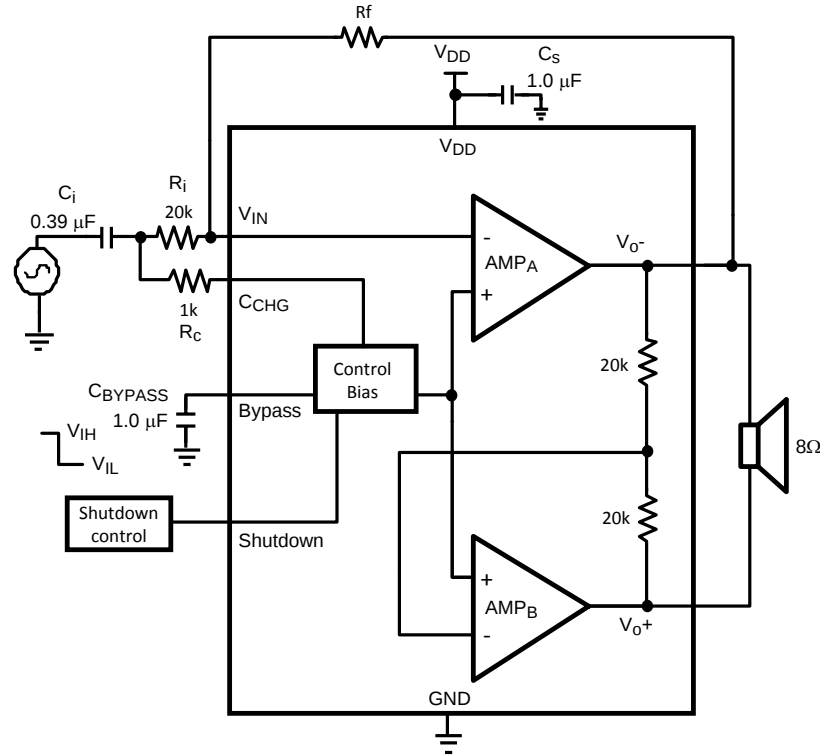

Figure 1. Typical Bridge-Tied-Load (BTL) Audio Amplifier Application Circuit
- (1) “Absolute Maximum Ratings” indicate limits beyond which damage to the device may occur, including inoperability and degradation of device reliability and/or performance. Functional operation of the device and/or non-degradation at the s or other conditions beyond those indicated in the *Recommended Operating Conditions* is not implied. The *Recommended Operating Conditions* indicate conditions at which the device is functional and the device should not be operated beyond such conditions. All voltages are measured with respect to the ground pin, unless otherwise specified.
- (2) The *Electrical Characteristics* tables list ensured specifications under the listed *Recommended Operating Conditions* except as otherwise modified or specified by the *Electrical Characteristics Conditions* and/or Notes. Typical specifications are estimations only and are not ensured.
- (3) The maximum power dissipation must be derated at elevated temperatures and is dictated by T_{JMAX}, θ_{JA}, and the ambient temperature, T_A. The maximum allowable power dissipation is P_{DMAX} = (T_{JMAX} - T_A) / θ_{JA} or the number given in *Absolute Maximum Ratings*, whichever is lower. For the LM4951A typical application (shown in Figure 1) with V_{DD} = 7.5V, R_L = 8Ω mono-BTL operation the max power dissipation is 1.42W. θ_{JA} = 73°C/W.
- (4) Human body model, applicable std. JESD22-A114C.
- (5) Machine model, applicable std. JESD22-A115-A.